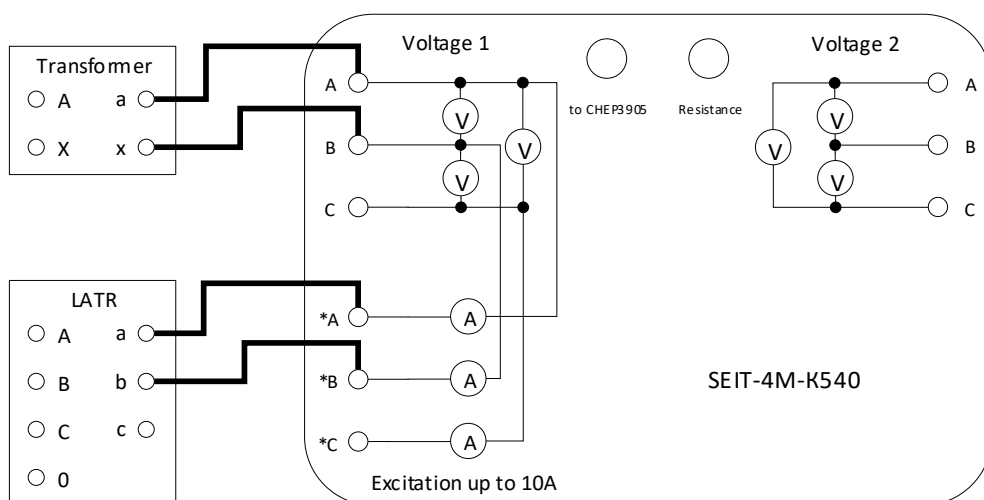

Fig. 12 Connection Circuit for a Single-Phase Transformer Open-Circuit Test
5.3.1.3. To perform a test with a single-phase transformer, assemble the circuit shown in Fig.12.